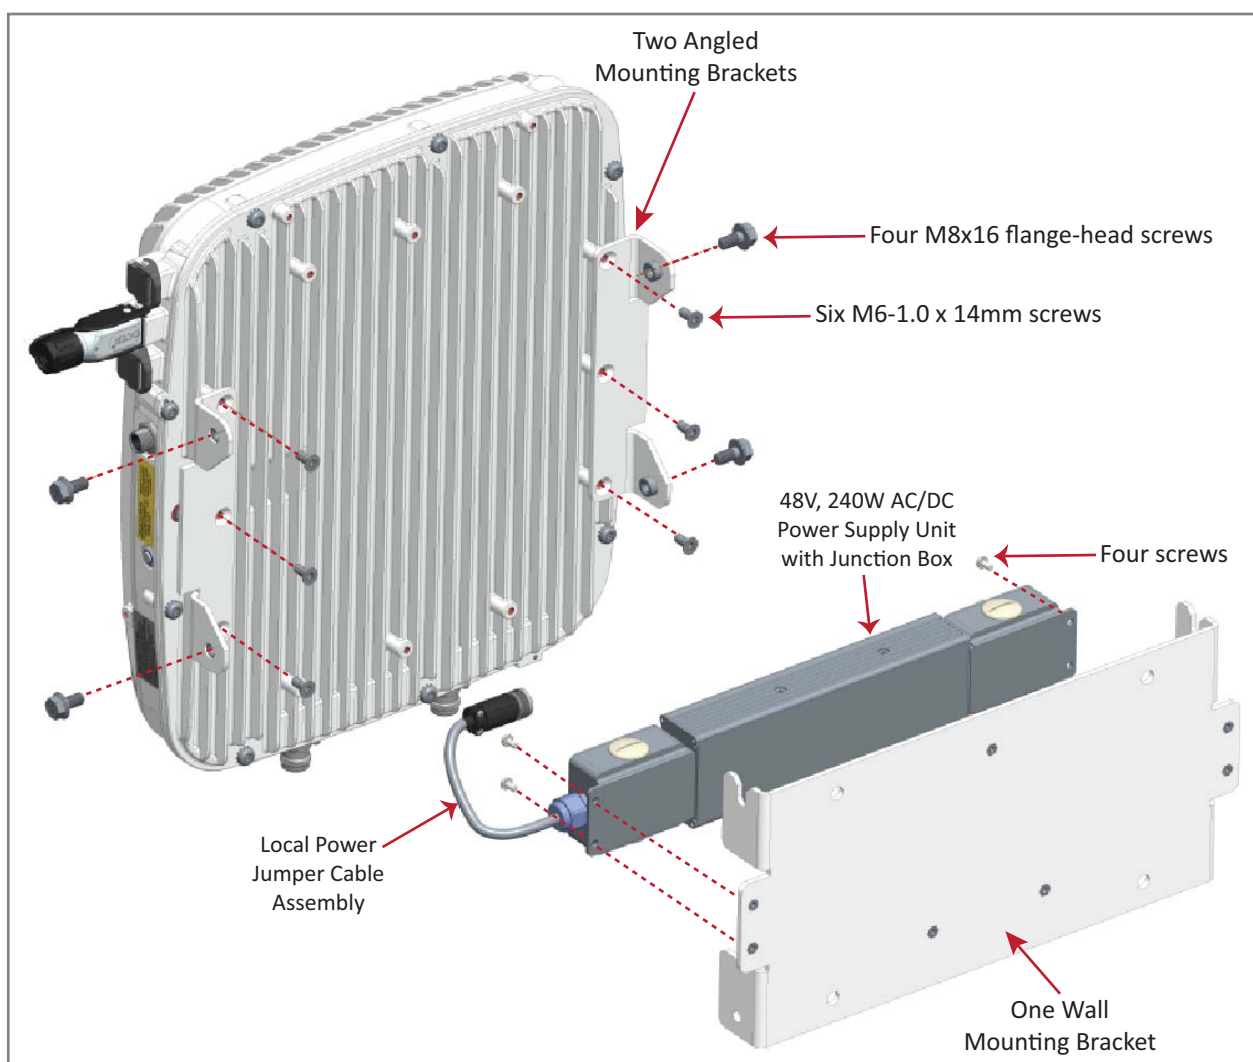

Figure 7-11. CAP L (No Fan Kit) with 240W AC/DC Power Supply Kit
- CAP L, no Fan Kit—Figure 7-11